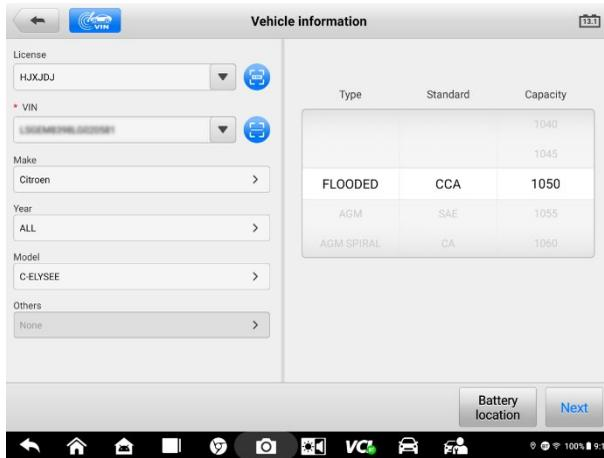

Figure 9-4 Vehicle Information Screen
1. Tap **Next** on the Vehicle Information screen (Figure 9-4). Follow the on-screen instructions. Check the boxes once all required tasks are completed, and tap **Start Testing**.